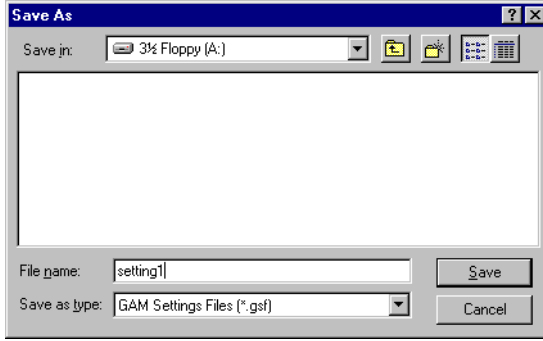

Figure 5-22. Save Settings to a File
1. Click Save Settings. A Save As dialog box is displayed (Figure 5-22).